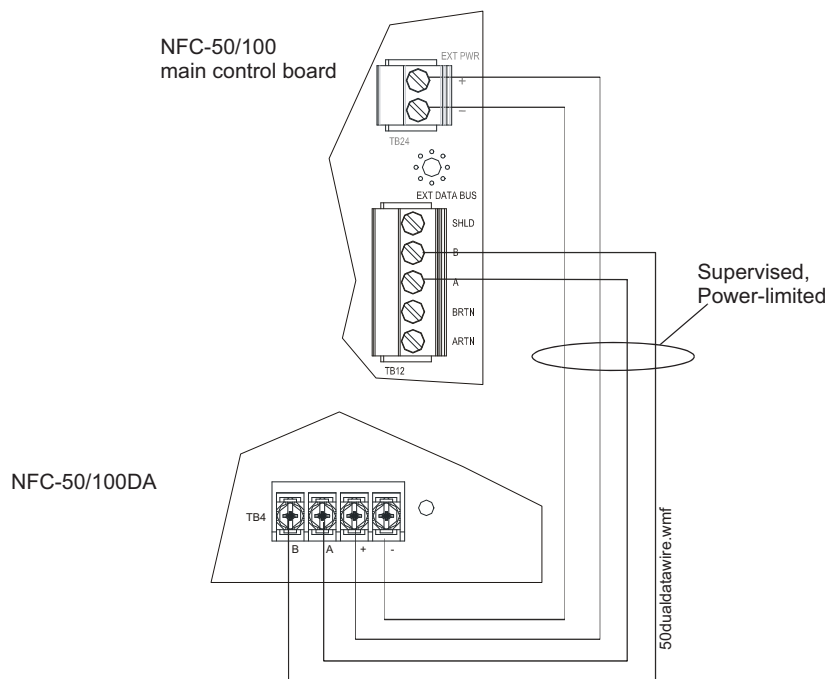
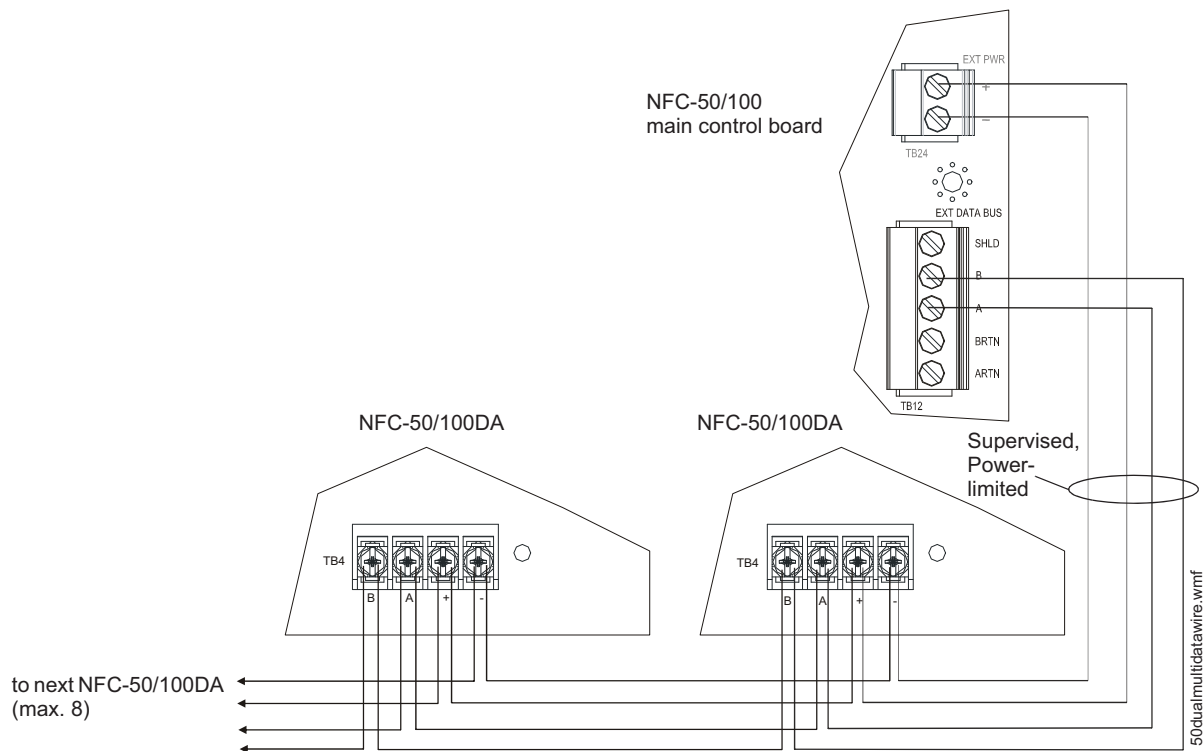

Figure 3.8 Data Bus Connections of the NFC-50/100DA
Figure 3.9 Connecting Multiple NFC-50/100DAs to the Data Bus
This section contains information on how to connect up to eight (8) NFC-50/100DAs onto the main control Data BUS. Refer to the *NFC-50/100 Manual* for Data BUS specifications. Wire the Data BUS from TB12 on the main control board to the NFC-50/100DA as shown in Figure 3.8 or Figure 3.9.